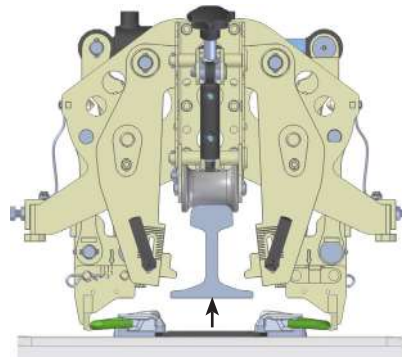

Fig. 39
3. When the shoes are locked onto the back of the clips and have stopped moving, grab the dead-mans-handle and the sleeper will be lifted up towards the rail (Fig. 39).